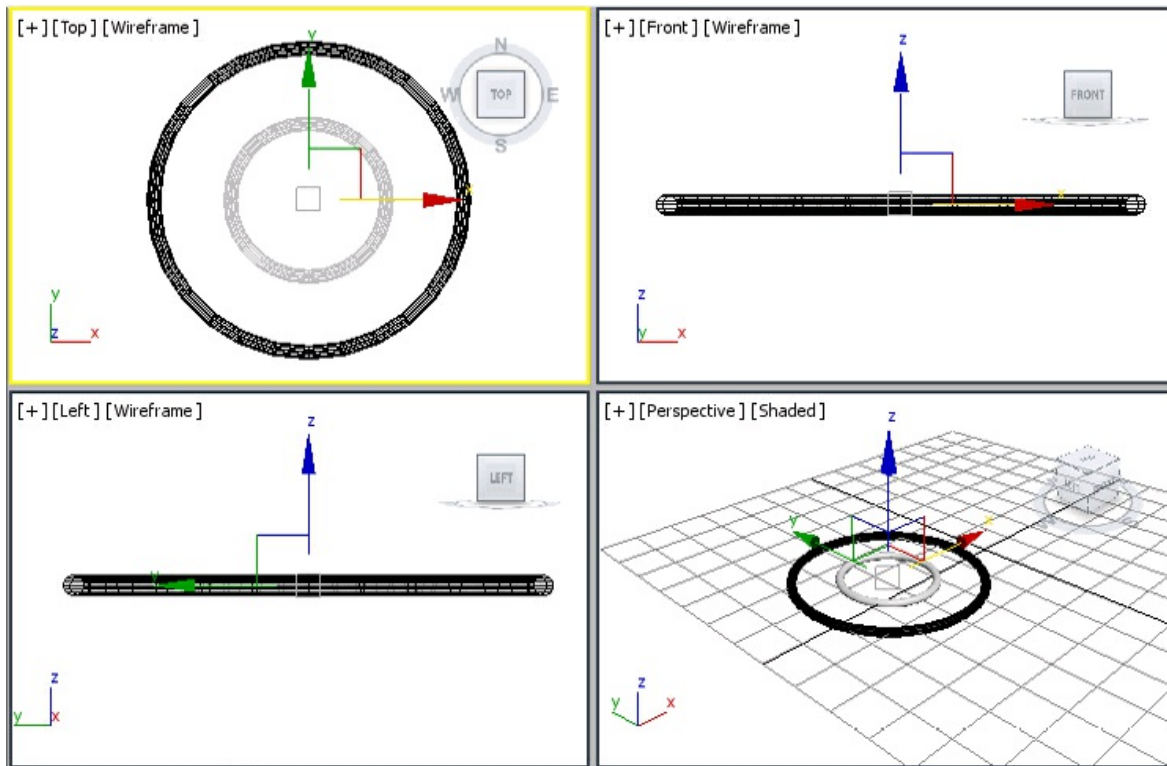

Figure 6-78 *Alignment of the circles in viewports*
9. Choose the **Zoom Extents All** tool and align both the circles using the **Select and Move** tool, as shown in Figure 6-78.